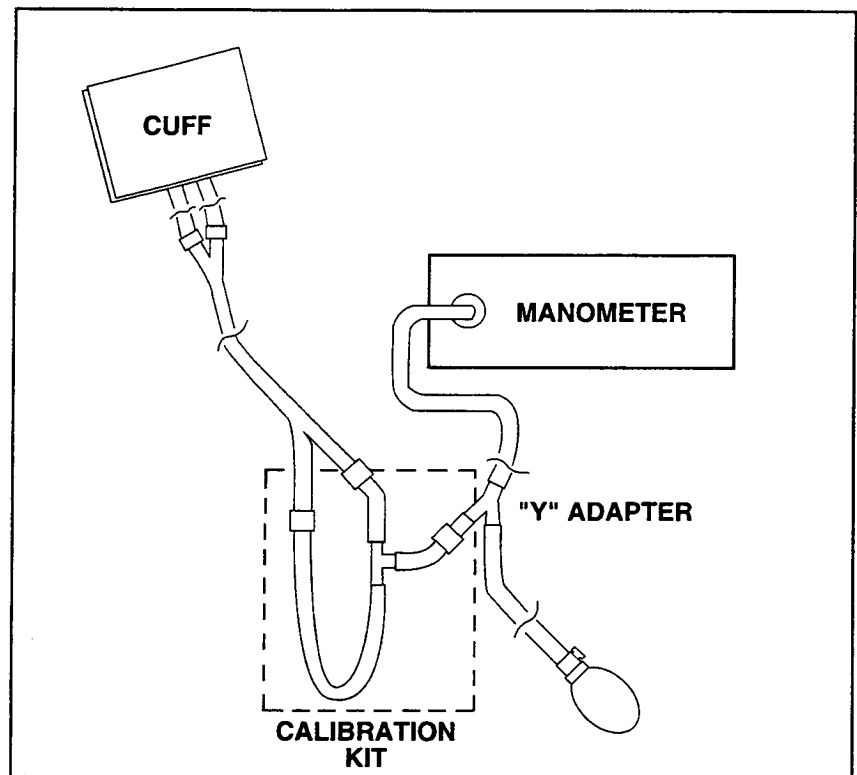

Figure 3-5. Cuff and Hose Leak Check Setup
2. Connect a manometer with the parts supplied in the blood pressure calibration kit as shown in Figure 3-5.